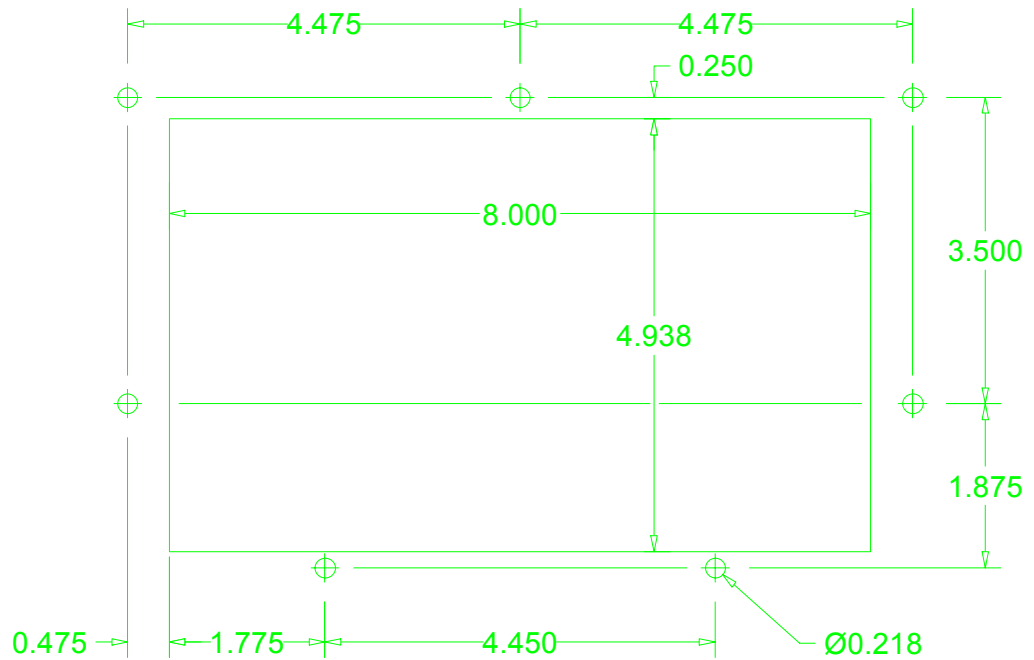

FIGURE 2.1
| Figure 2.1 - Recommended Panel Cut-Out | 13 |
The M4502 is designed to mount from the front in the user's cabinet door. Use the recommended cut-out in figure 2.1.
- 2) Referring to the recommended cut-out in figure 2.1, cut a cut-out in the door of the enclosure.